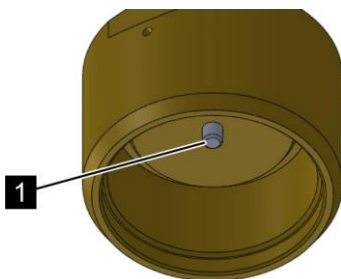

Fig. 159: Release pin
5. ➤ Check whether the release devices of the associated extinguishing agent container/s have been activated, i.e. whether the release pin (Fig. 159/1) protrudes 8.2 ± 0.5 mm (0.315 ± 0.02 inches).